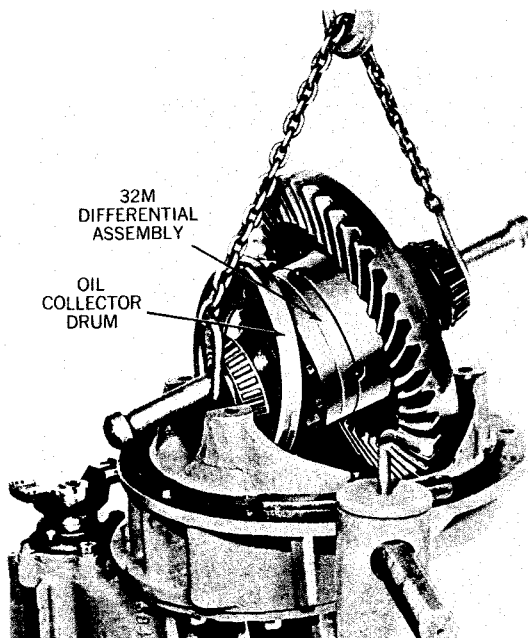

Fig. 81.
- 6.** Tilt differential assembly to move ring gear away from pinion then lift differential assembly from carrier (see fig. 81).